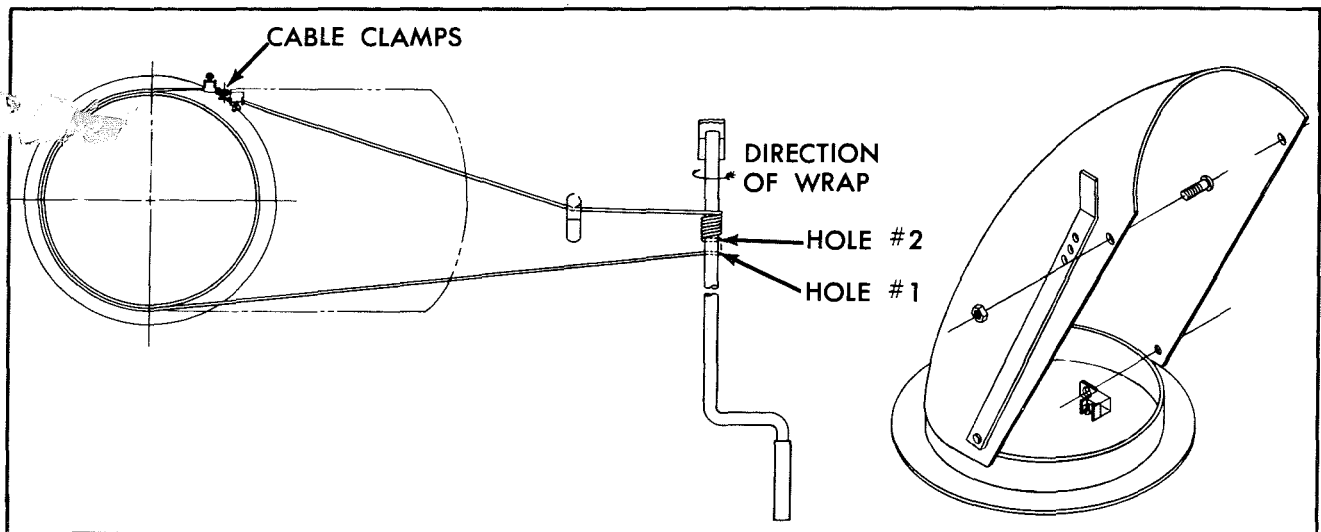

Figure 3
2. Pull the cable around behind the shroud and thread the end through hole #1 and back through hole #2 in the crank (figure 3).
3. Wrap the cable seven (7) complete turns down the crank in the direction shown in figure 3, finishing the last turn on top of the crank.